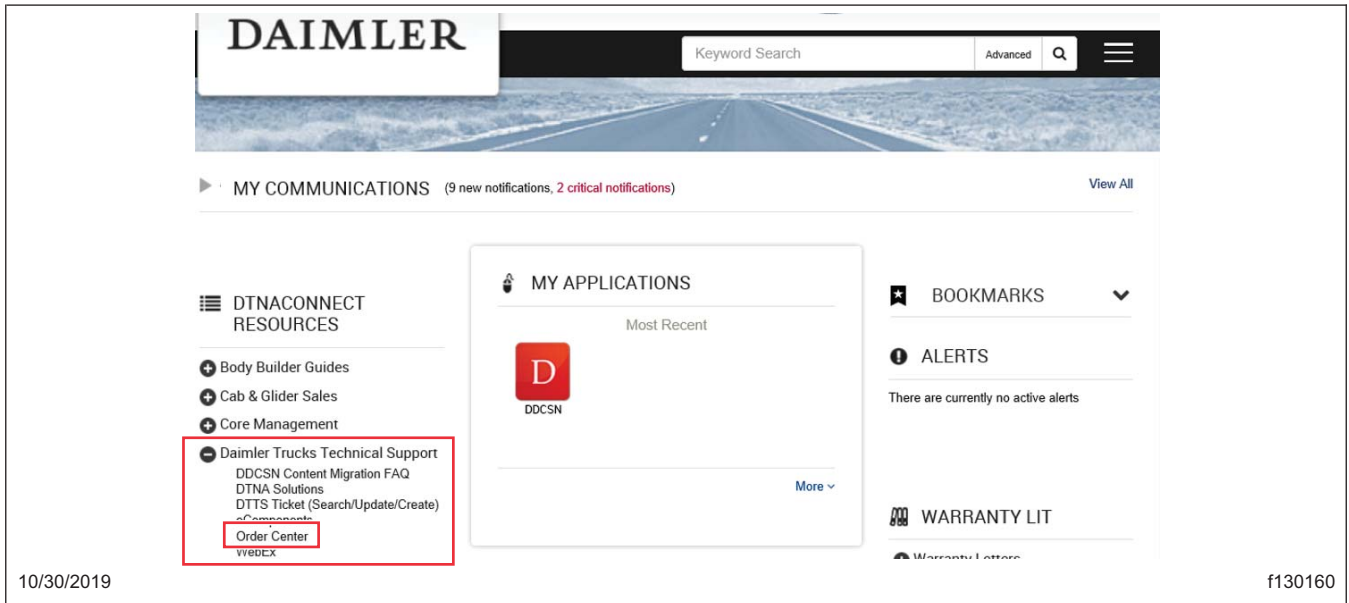

Fig. 8, DTNA Connect
2.3 Click the “+” symbol next to Daimler Trucks Technical Support. See **Fig. 8**.